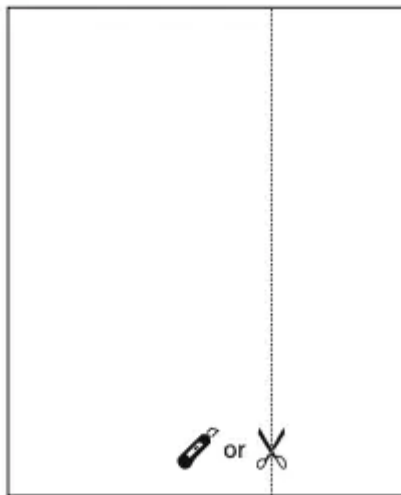

Fig. 12
Step 2. Mark a line on the provided R1 insulation panel that is 1/8" (3 mm) less than the measured width in step 1, then cut the R1 insulation panel along the line (Fig. 12).